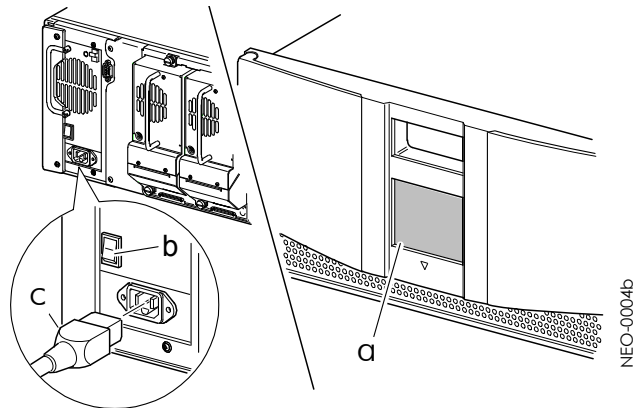

Figure 1. Powering Down the Library
2. Power off the library as follows (Figure 1):
- b. Turn the Master Power Switch at the rear to Off (O).